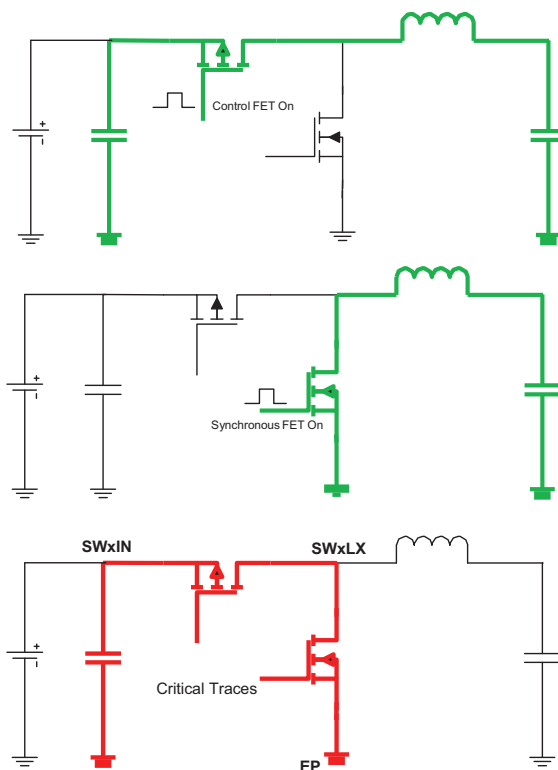
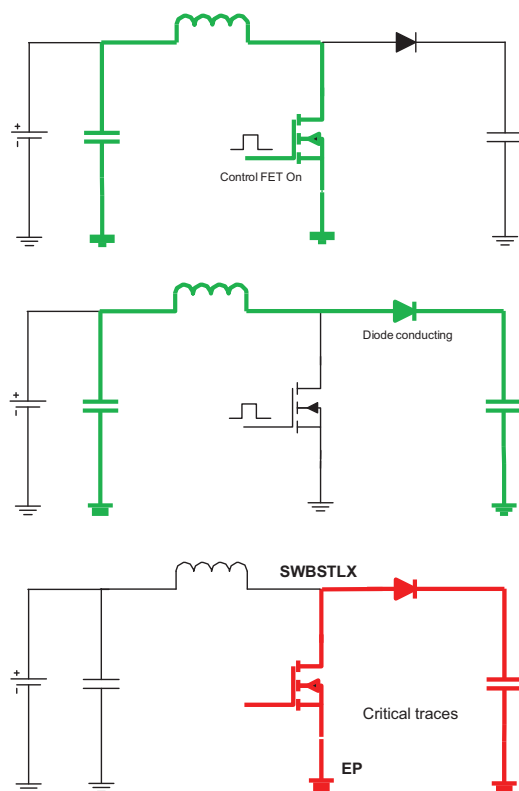

Figure 2. Buck converter critical traces
Figure 6. Boost converter critical traces
- The exposed pad (EP) on the PF3000 is the high-current ground return for all the buck regulators and the boost regulator. Use vias under the EP to drop onto the ground plane(s) directly, ensuring sufficient copper for the ground return.
- If it is necessary to route a power trace to another layer, choose a trace in low di/dt paths (see Figure 2 and Figure 6) and use multiple vias for interconnection. - To minimize noise propagation and connection impedance between layers.
Figure 2 shows current paths in a buck converter in the 'on' and 'off' periods of the switching cycle. Critical traces refer to traces which conduct either only during the 'on', or only during the 'off' periods, as highlighted in red.
Figure 6 shows the critical traces in a boost converter.